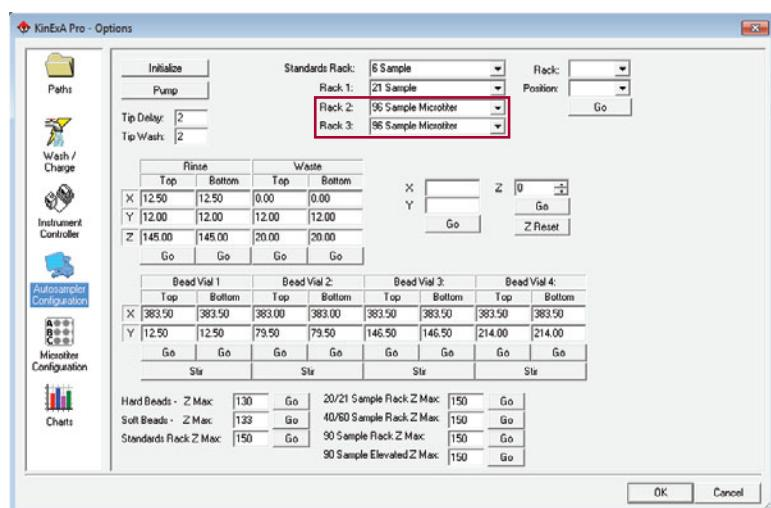

Figure 2. Autosampler configuration screen.
- Open the KinExA Pro software. Under the **Tools** menu, select **Options**. In the **KinExA Pro - Options** window select **Autosampler Configuration**. Designate Rack 2 and Rack 3 as either 96 or 24 Sample Microtiter or 48 Sample Microcentrifuge (*Figure 2*). Rack 2 is now the left hand plate and Rack 3 is the right hand plate.